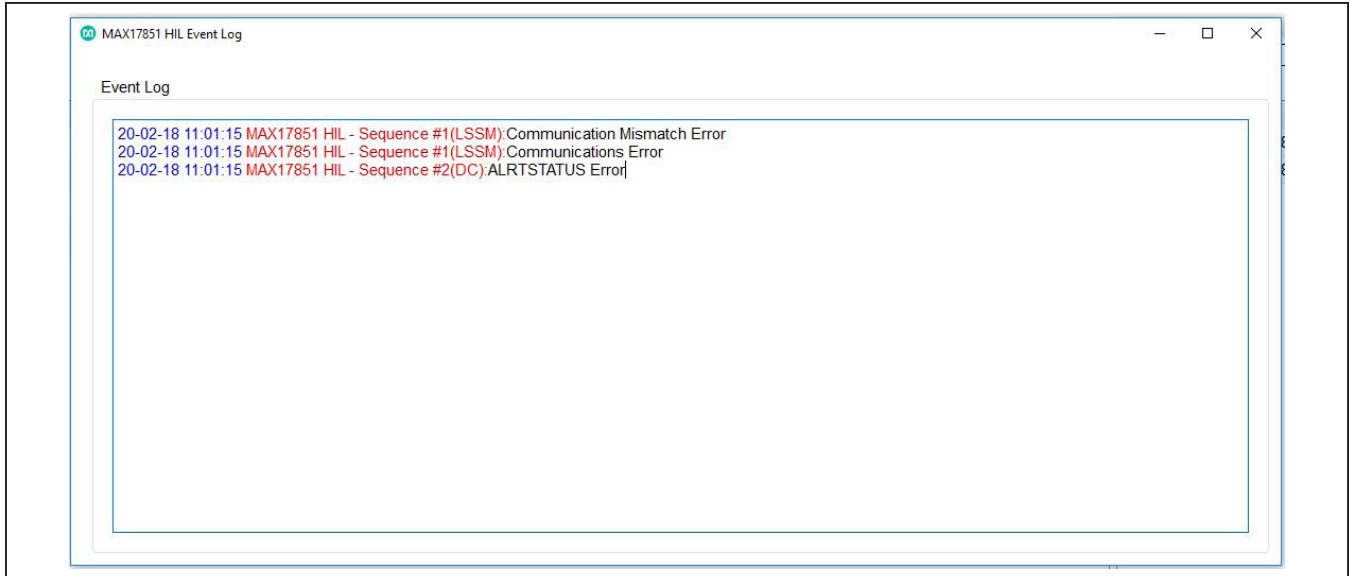

Figure 22. HIL event log
- 10) Click on the **Event Log** button located at the bottom right side of the **HIL** tab. In the **HIL Event Log** panel (Figure 22), observe the **LSSM** and **Data Check** byte faults that were simulated.